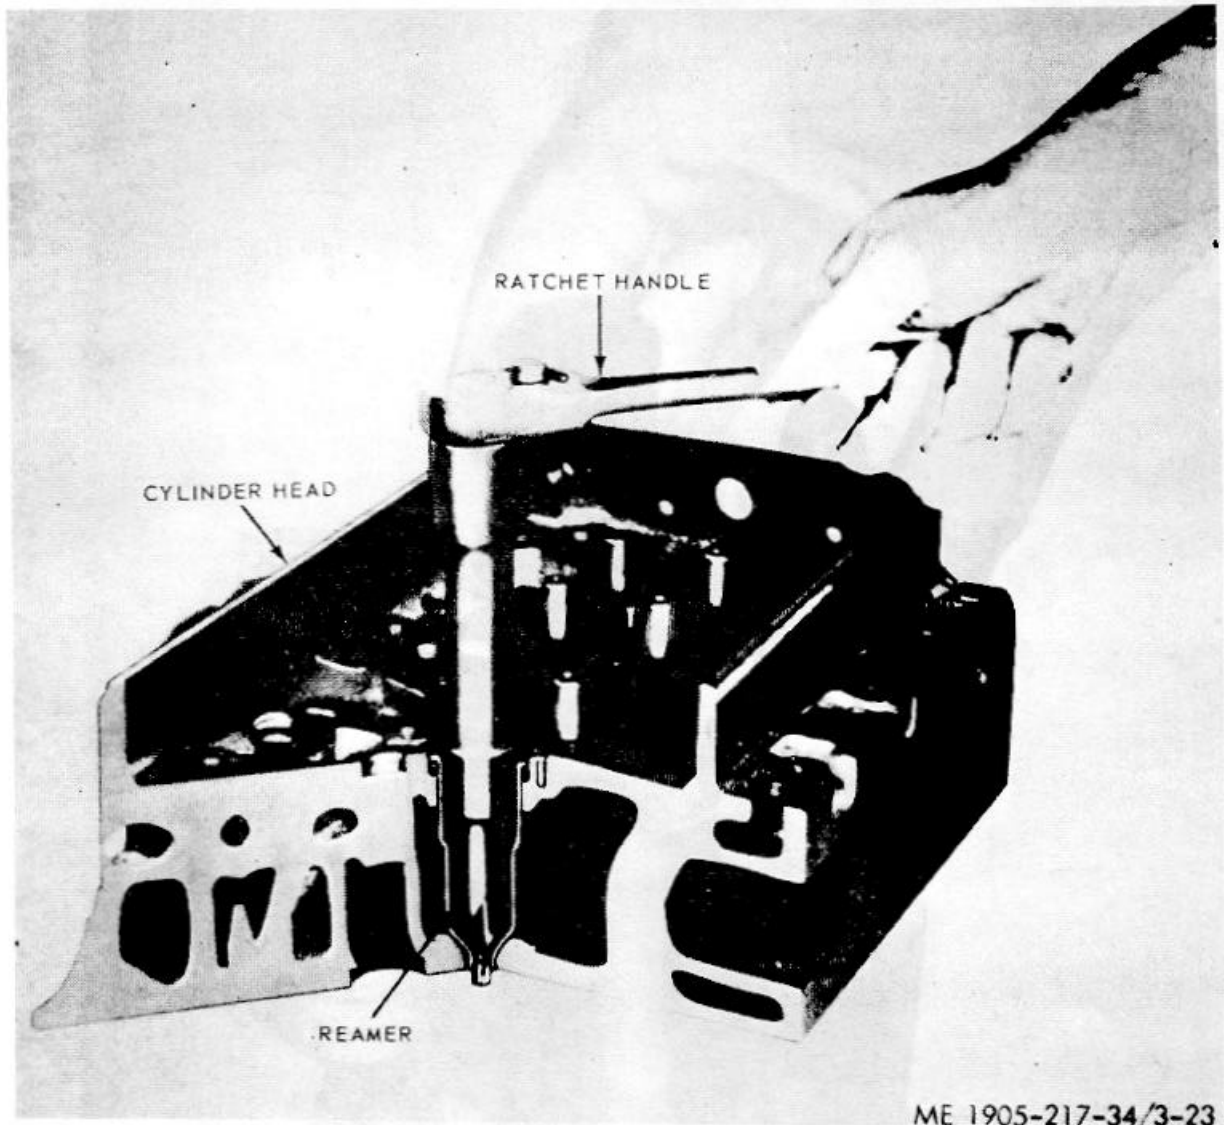

Figure 3-23. Reaming seat of injector tube in cylinder head
- (1) Test the injector (para (d) above).
- (2) Ream the beveled seat of the injector tube in the cylinder head. Pack the flutes of the reamer with grease to retain the carbon removed from the tube (fig. 3-23).